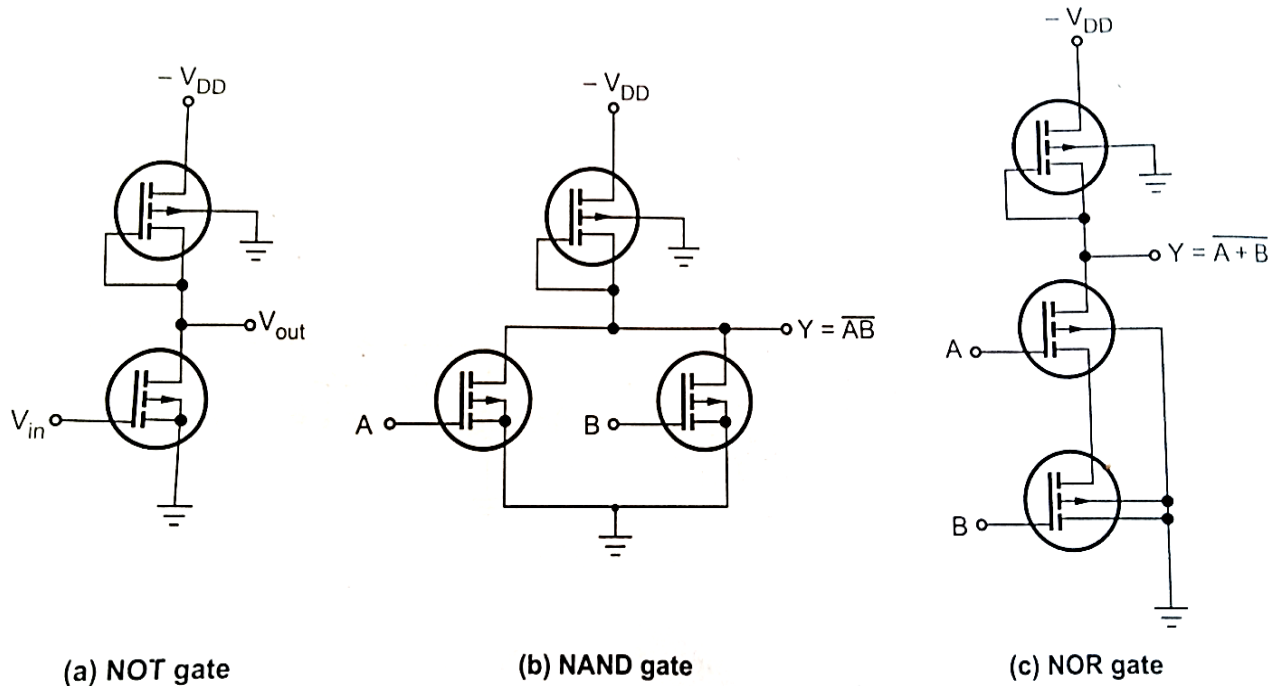

Figure 1.25: PMOS logic gates
- The figure 1.25 Shows PMOS inverter, NAND gate and NOR gate.